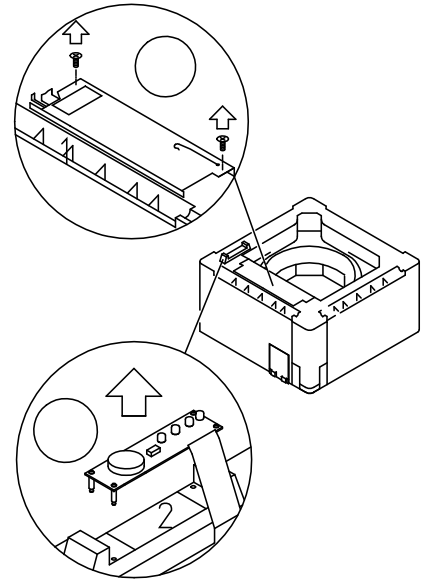

Fig. 1.
- a Using a 6mm Allen key or a medium sized flat bladed screwdriver, remove the blanking plug from the drain outlet on the chassis (Fig.1.) and collect any condensate in a suitable container.
2. On 'L' and 'E' units, unclip the receiver pcba (Fig. 1). Also remove the return air sensor from the fan guard.
3. Release the internal electrics tray (two screws (Fig. 1)); Remove the fan cowl (4 screws).